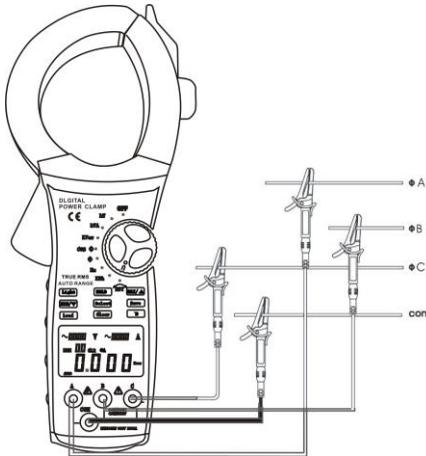

figure 30
(1) Turn on Rotary Switch to select “RST”, (figure 30)